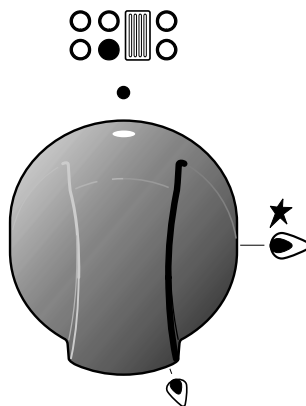

Fig. 4.3
Each hob burner is controlled by a separate gas tap operated by a control knob (fig. 4.3) which has 3 positions marked on the knob, these are:
- The electric ignition is incorporated in the knobs (★ symbol beside flame 🔥 - max. heat/max. gas flow fig. 4.3).
- 1) Lightly press and turn the knob anti-clockwise, and make the symbol ★ 🔥 printed on the knob to match with the indicator on the control panel (fig. 4.3).